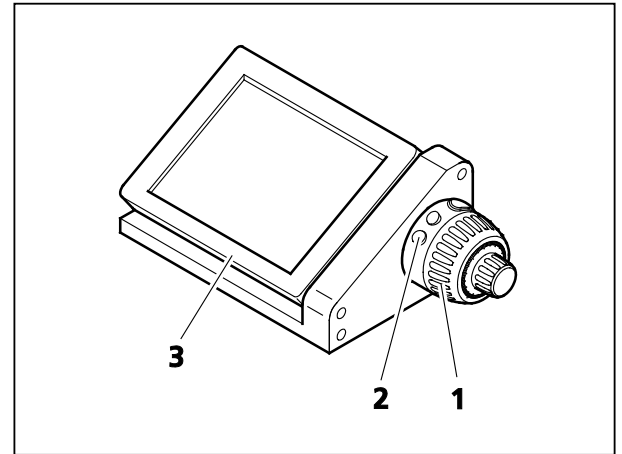

Fig. 74 Docking station with TFT display, control ring and focusing drive
- If it is inconvenient to operate the microscope stand from the right-hand side, the functions of the touch screen TFT display (Fig. 74/3 on the docking station), the control ring to the right (corresponds to Fig. 74/2 on the docking station) and the focusing drive to the right (corresponds to Fig. 74/1 on the docking station) can be operated via the docking station, detached from the stand.